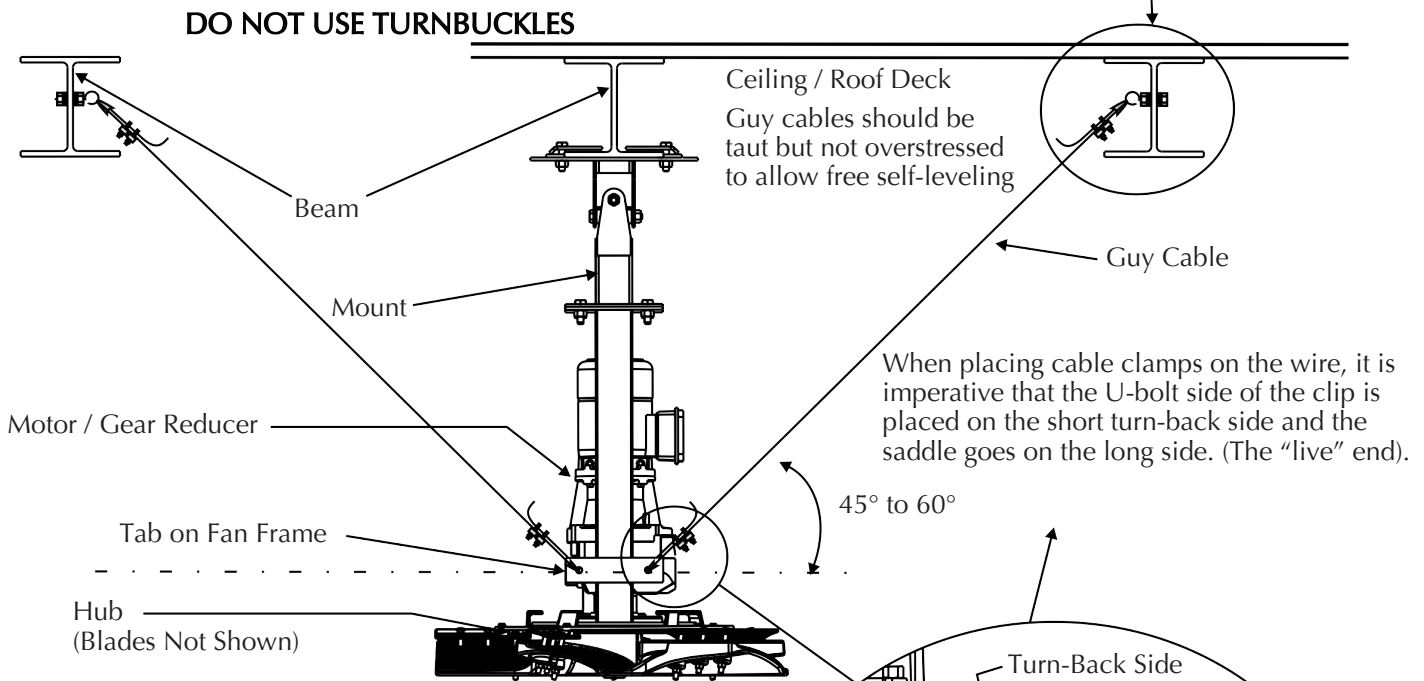
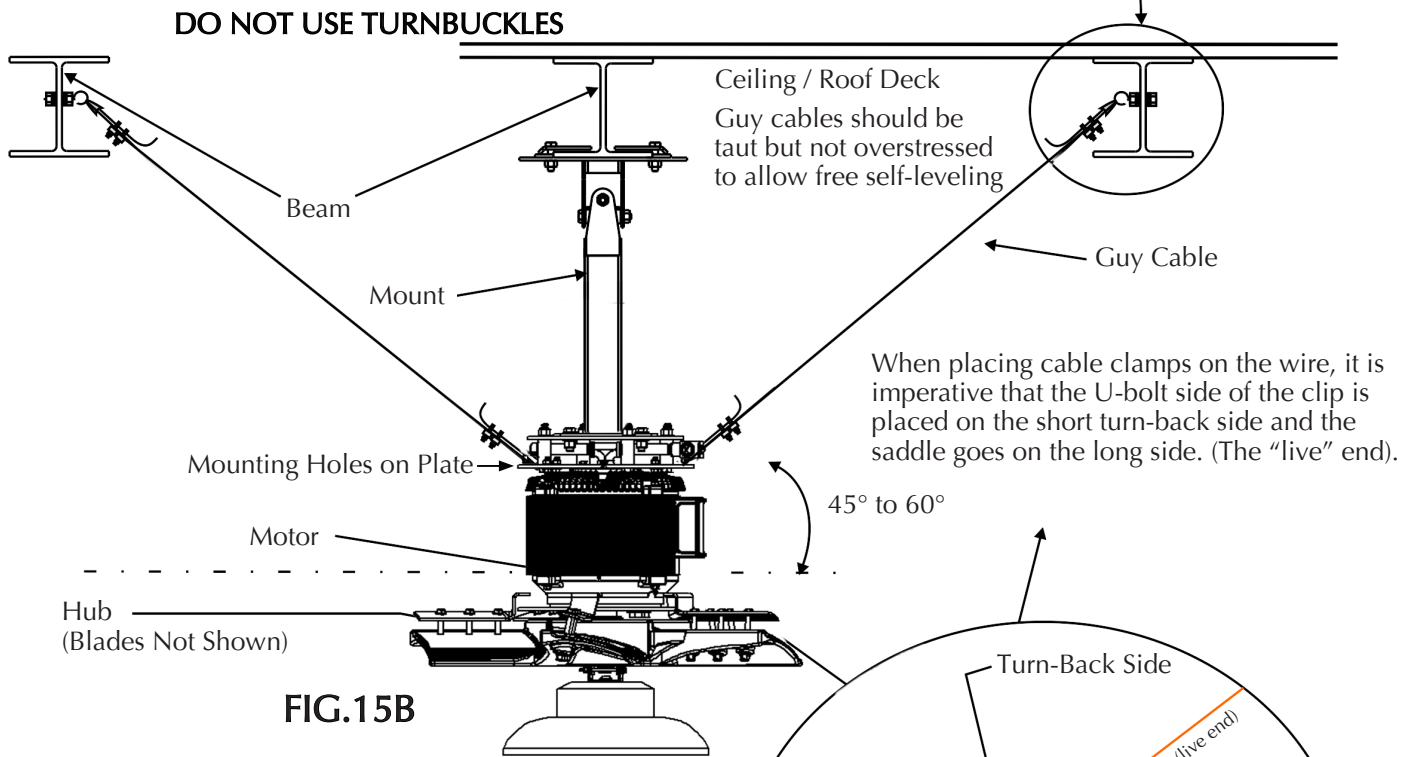
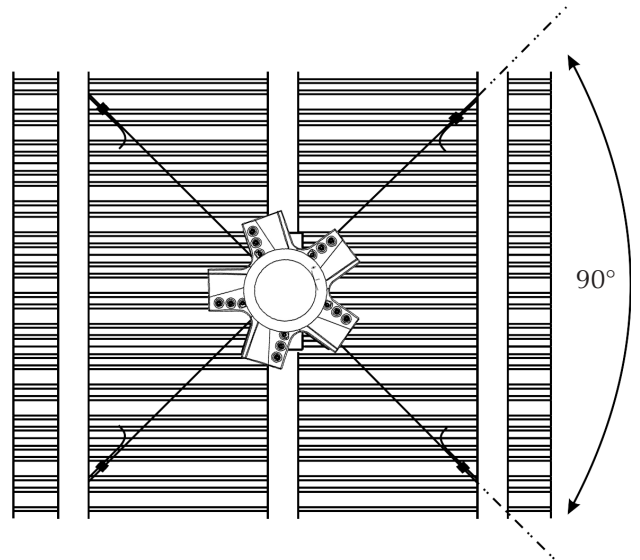

FIG.15
FIG.15B
FIG.17
STRUCTURAL NOTE: Guy cables must be installed or fastened to a structural component of the building at the angle shown in Fig.15 and Fig.17.
STRUCTURAL NOTE: Guy cables must be installed or fastened to a structural component of the building at the angle shown in Fig.15B and Fig.17.
2. Install eye bolt with nuts and washers in I-Beam as per Fig.15.
5. Guy wires should be taut but not over-stressed to allow free self-levelling. They should also be approximately 90° apart (Fig.17).